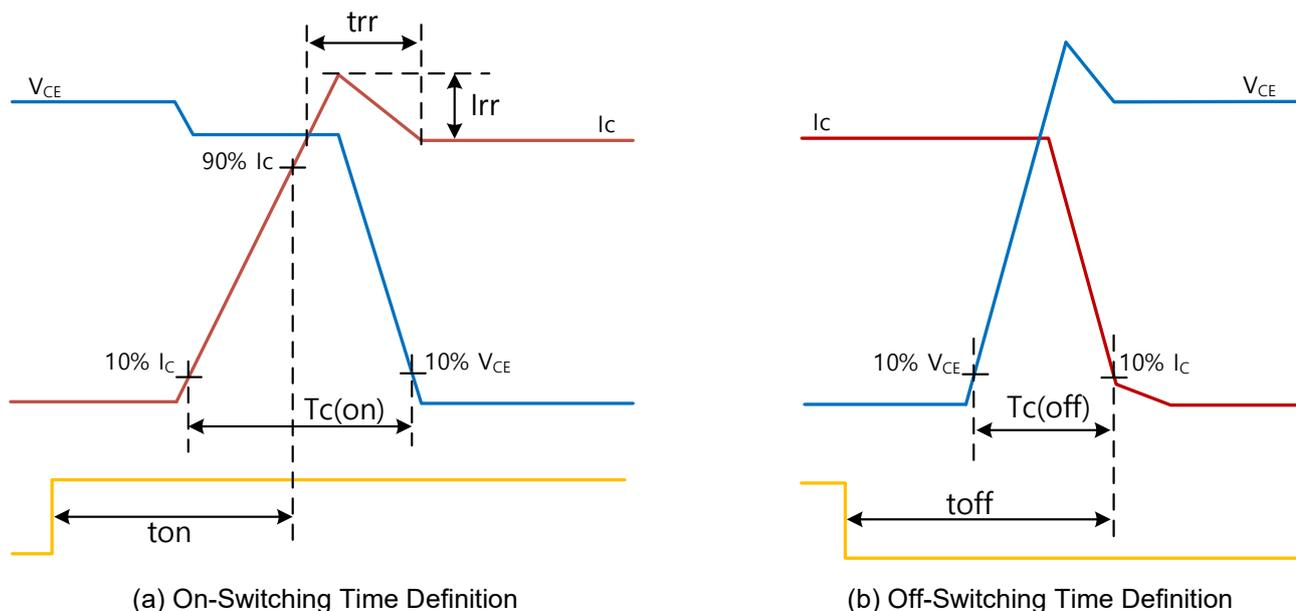
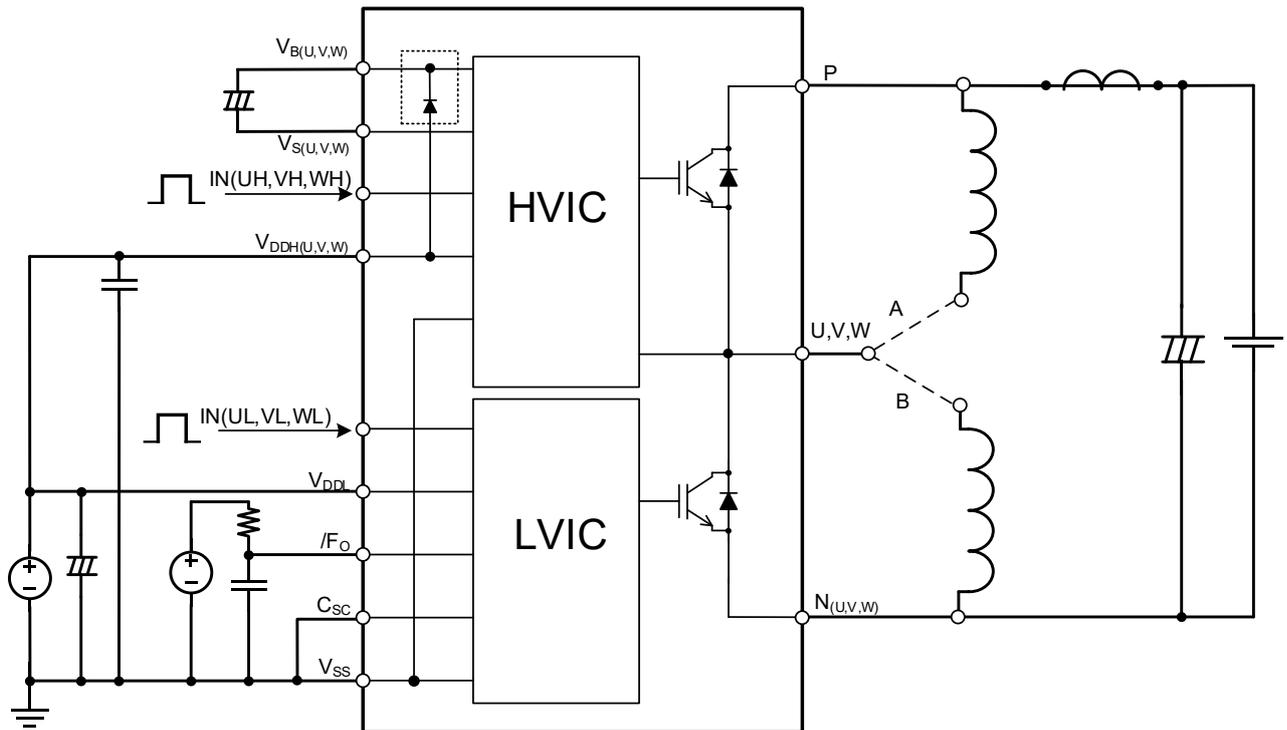

Fig. 3 Switching Time Definition
Fig. 4 Evaluation Circuit (inductive load) IGBT Evaluation
1.  $t_{on}$  and  $t_{off}$  include the propagation delay of the internal drive IC.  $t_{c(on)}$  and  $t_{c(off)}$  are the switching times of IGBT under the given gate-driving condition internally. For the detailed information, please see Fig. 3.
Switching time definition and performance test method are shown in Fig. 3 and Fig. 4 Switching characteristics are measured by half bridge circuit with inductance load.